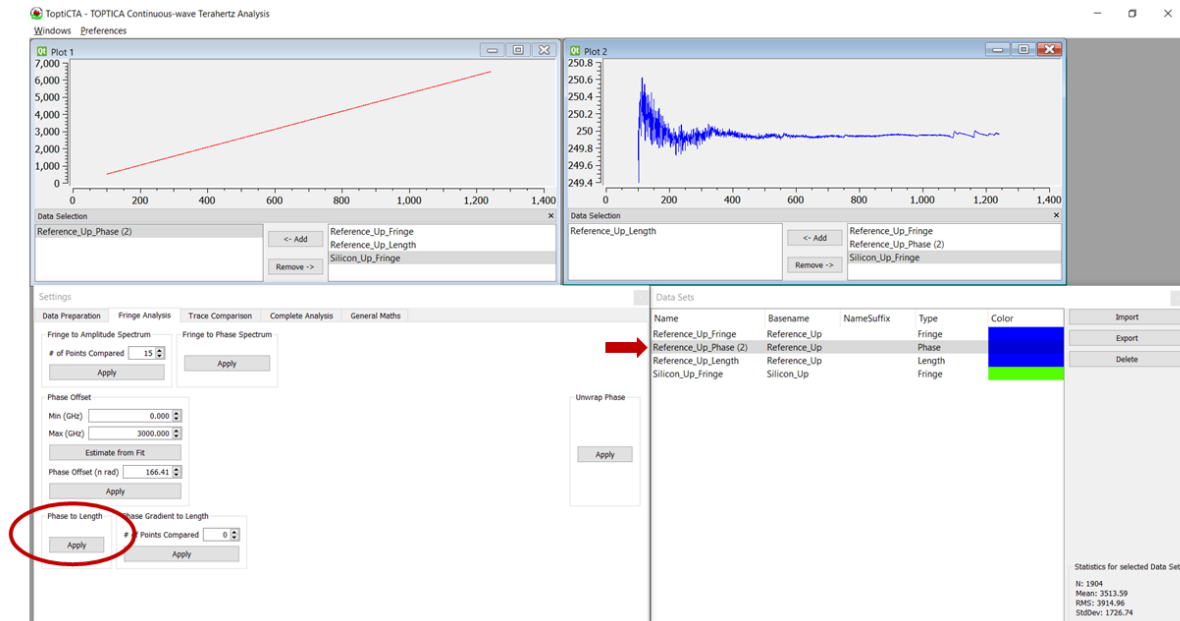

Fig. 12: Phase-to-length conversion, and resulting length plot (upper right window).
- d. In order to verify if the offset correction worked, click on the new “Phase (2)” dataset in the Data Selection Window. Click **Phase to Length** in the Settings + Analysis Window. Plot the resulting Length graph. The Length graph should be as smooth as possible. In particular, it should not exhibit an upwards or downwards bend towards low frequencies (Fig. 12).